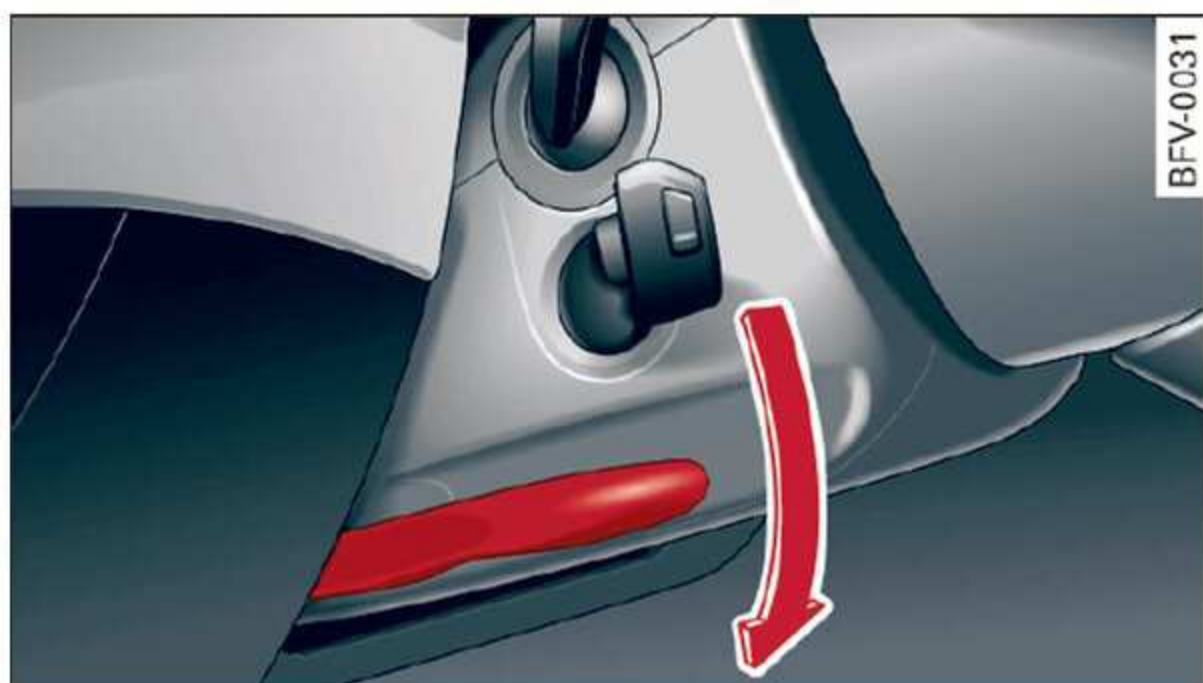

Fig. 64 Lever on the steering column
- ▶ Tilt the lever ⇒ *fig. 64* downward ⇒ ⚠.